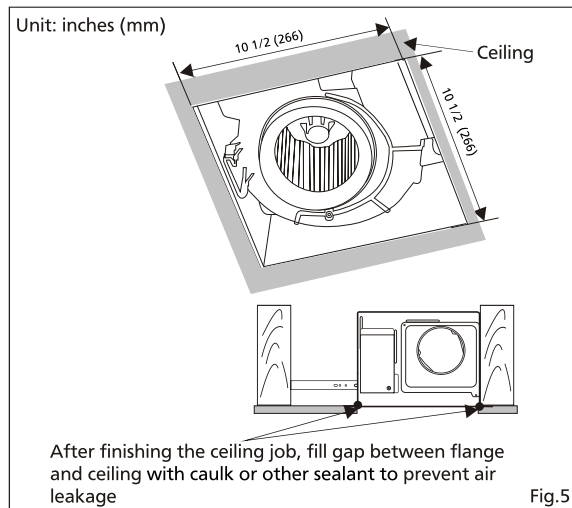

Fig.5
7. Finish ceiling work. Ceiling hole should be aligned with the inside edges of the flange. (Fig.5)